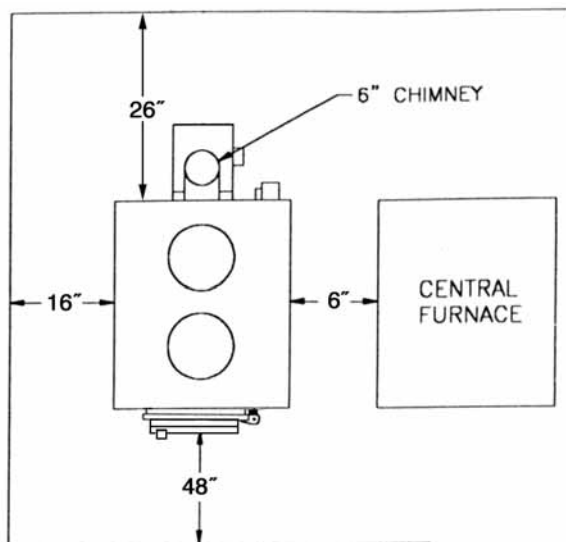

Fig. 1 – TOP VIEW
3. The installation of this furnace MUST comply with your local building code rulings. Please observe the clearances to combustibles (see reference figures 1–3). Do not place furniture or other objects within the clearance area.
3. Observe the clearances to combustible materials as listed and shown in figures 1, 2 & 3.
6. Use 6" diameter minimum 24 MSG black or 26 MSG blue steel furnace pipe to connect to the chimney. **DO NOT** use galvanized furnace pipe. Secure pipe sections with three (3) sheet metal screws in each furnace pipe and/or elbow joint to firmly hold the pipe sections together.
7. Recheck clearances from the furnace, connector furnace pipe, and corner clearances using the illustrations in figures 1 – 3 and your local building codes or fire protection ordinances.
4. Position the furnace according to clearances shown in figures 1–3 and to maintain chimney connections as short as possible. Avoid unnecessary turns and installation of devices that would create excessive resistance to the flow of flue gases.
NOTICE: THESE ARE PRODUCT DIMENSIONS ONLY. PLEASE SEE FIGURES 1 & 2 ON PAGE 6 AND LABELS AFFIXED TO APPLIANCE FOR PROPER CLEARANCES TO COMBUSTIBLE MATERIALS.